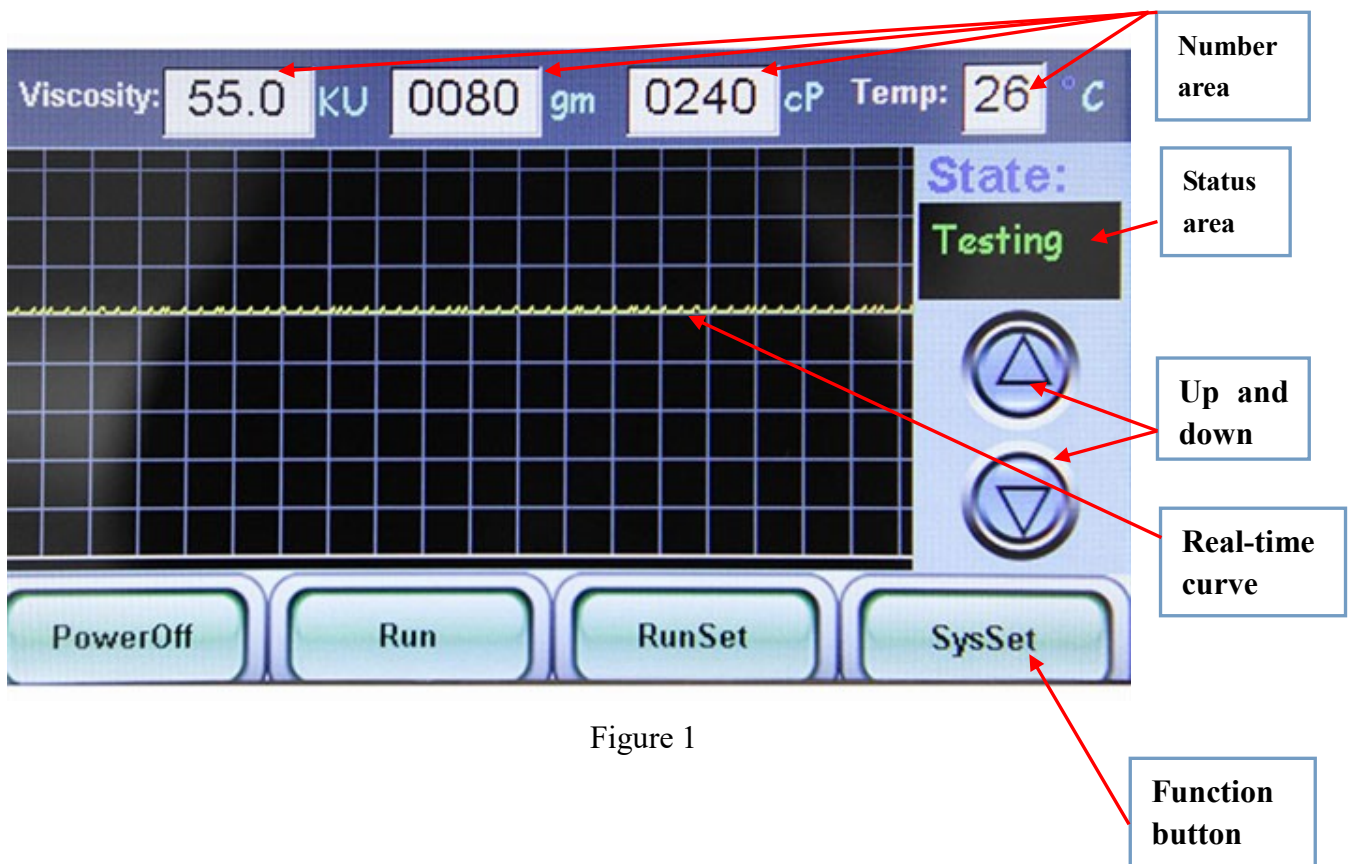

Figure 1
- 3.5.6 Entering the main interface for the first time, the instrument must be set preferably as shown on Figure 1;